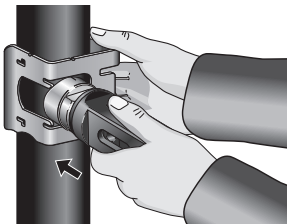

Figure 10 – Insert Fitting Through Positioning Guide
6. Fully insert the fitting through the fitting guide into the hole in the pipe. The curve of the fitting should match the curve of the pipe and sit on the pipe with no gaps. The expander should be perpendicular to the pipe. (See Figure 10).